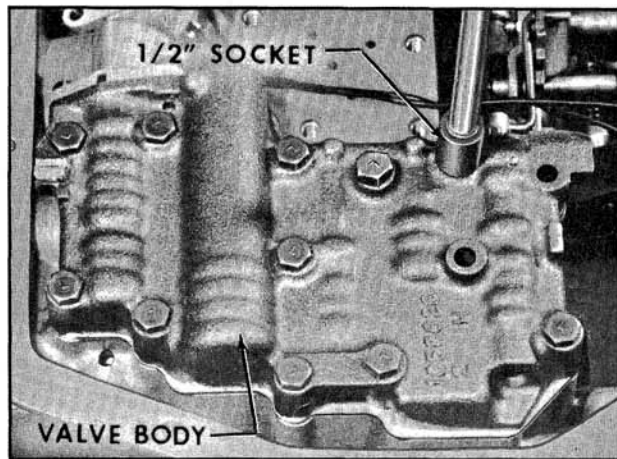

Fig. 6-532 Installing Valve Body Attaching Bolts
5. Install 11 valve body to case retaining bolts. Torque bolts to 12 ft. lbs. (Fig. 6-532)